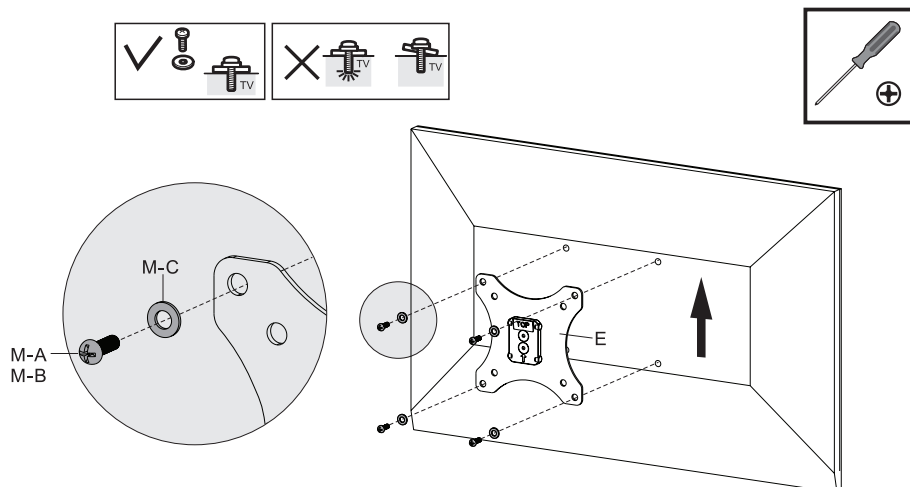

Figure 6
- Install Washer (M-C) with Bolt (M-A/M-B) into the monitor's mounting holes, tighten them using a Phillips screwdriver, see Figure 6.